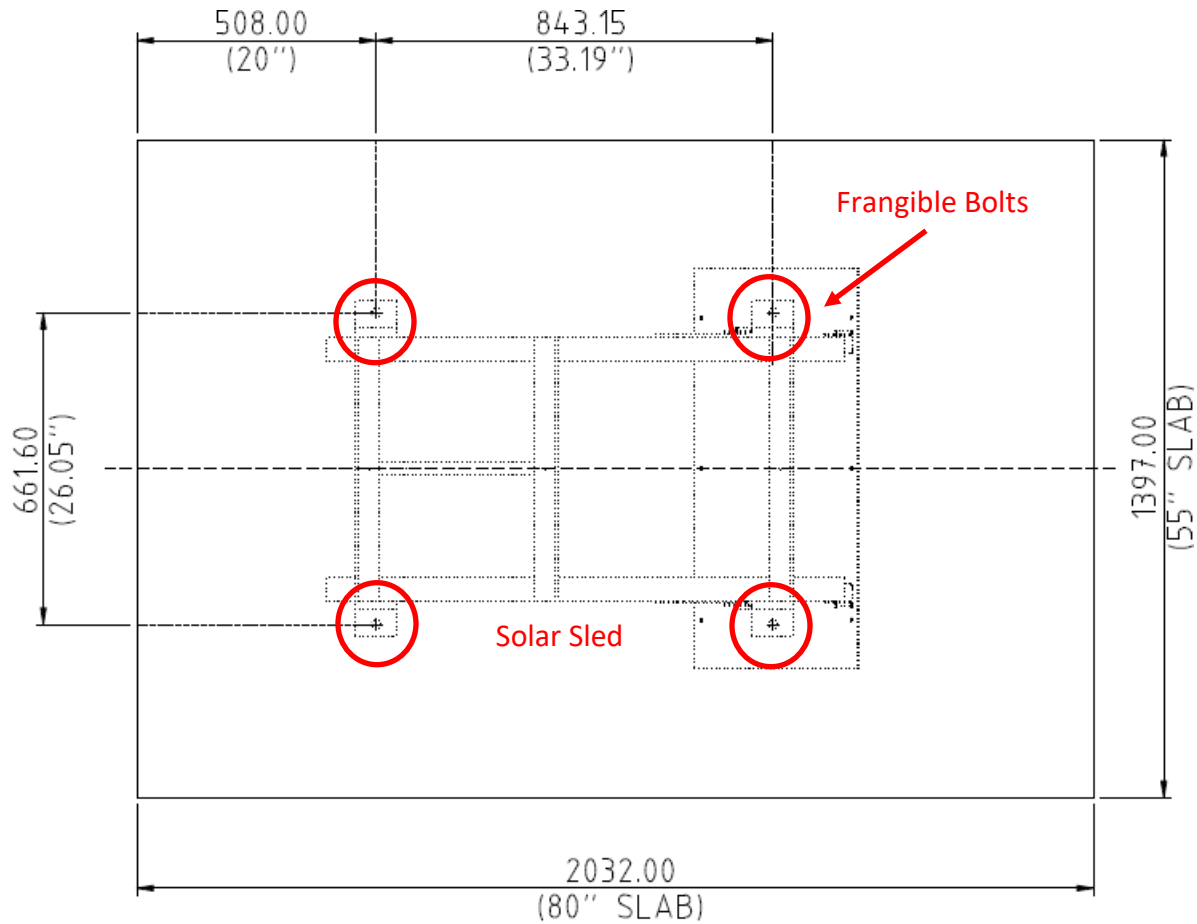

Figure 1: Solar Sled, Top View
3. Install the solar sled chassis on the frangible bolts as shown in Figure 1.